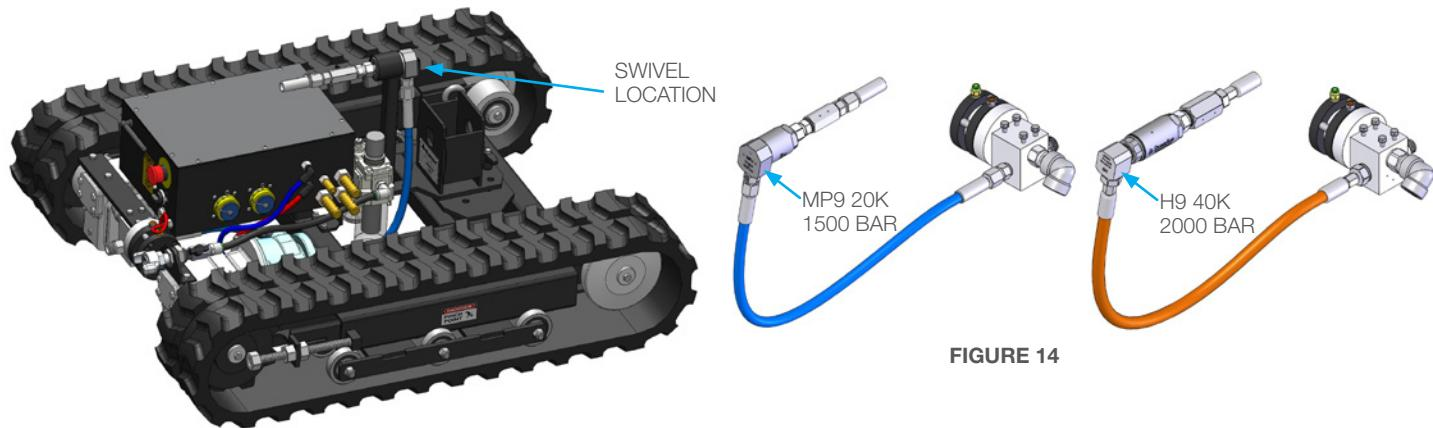

FIGURE 14
14. The Tracked Striker Base comes with either a 20K (1500 bar) or 40K (2000 bar) Swivel and Inlet assembly. Additional swivel assemblies are sold separately through StoneAge Tools®. (**Figure 14**)